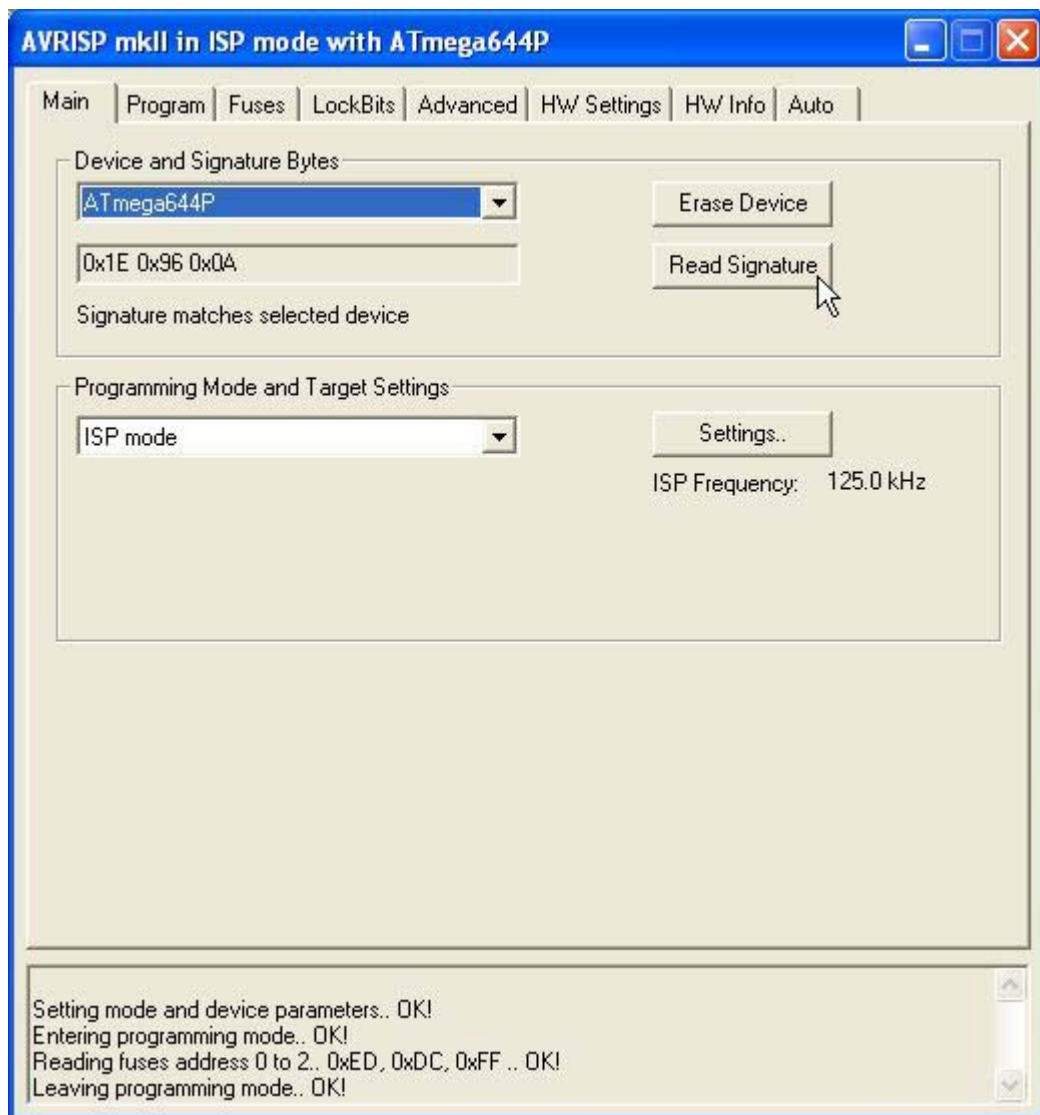

FIGURE D5: AVR STUDIO SETTINGS FOR AVRISP MK II (1 OF 4)
- i) In the *main* window below, select the *AT mega1284P* microcontroller an *ISP frequency:125.0 KHz* and push the bottom *read signature* in order to verify that the programmer is working properly, as it is shown in the figure D5.